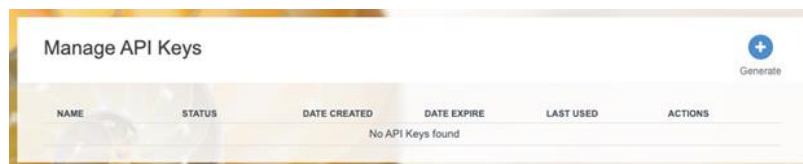

Figure 75: API Key List dialog
- In a third browser tab, navigate to <https://accounts.login.illumina.com/platform-home/#/apiKey/list> (see **Figure 75**). (If your BaseSpace account is part of an Enterprise subscription, navigate to [https://\[YourEnterpriseDomain\].login.illumina.com/platform-home/#/apiKey/list](https://[YourEnterpriseDomain].login.illumina.com/platform-home/#/apiKey/list)).